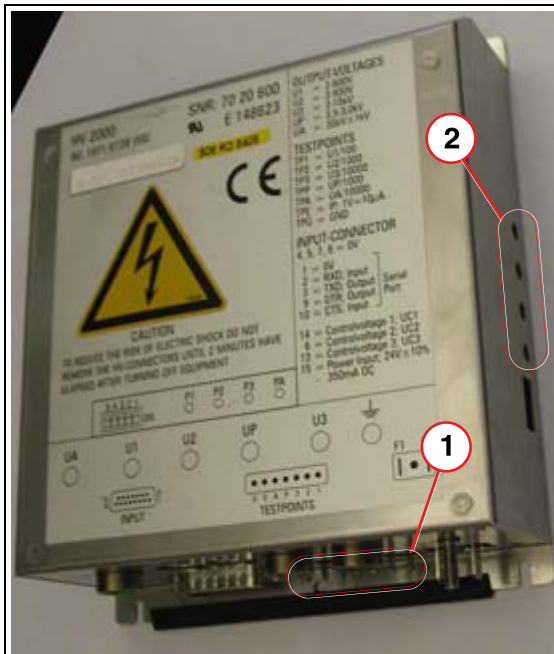

Fig. 24: PS
2. Adjust / measure the voltages at the following potentiometer (2/ Fig. 24 / p. 46) and test points (1/ Fig. 24 / p. 46).